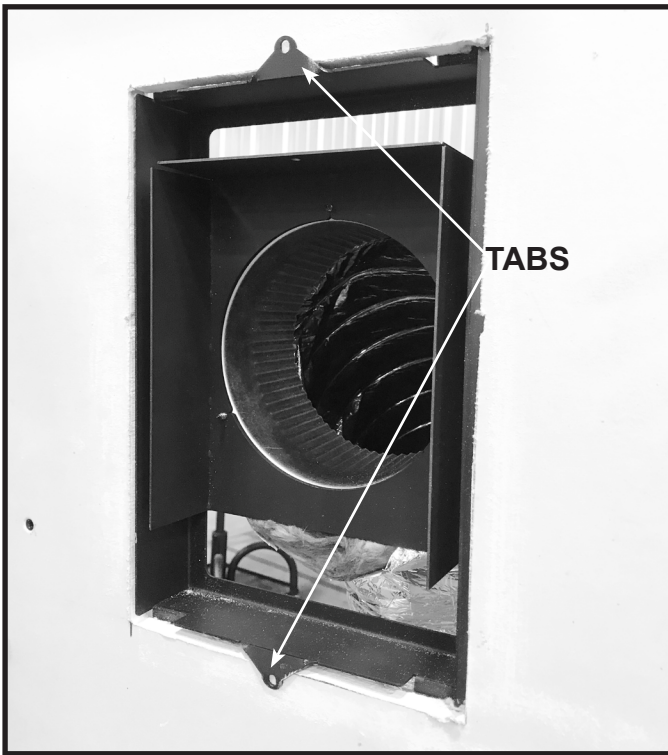

Figure 7.10 Bend Register Cover Tabs
2. Bend over both register cover tabs. See Figure 7.10.